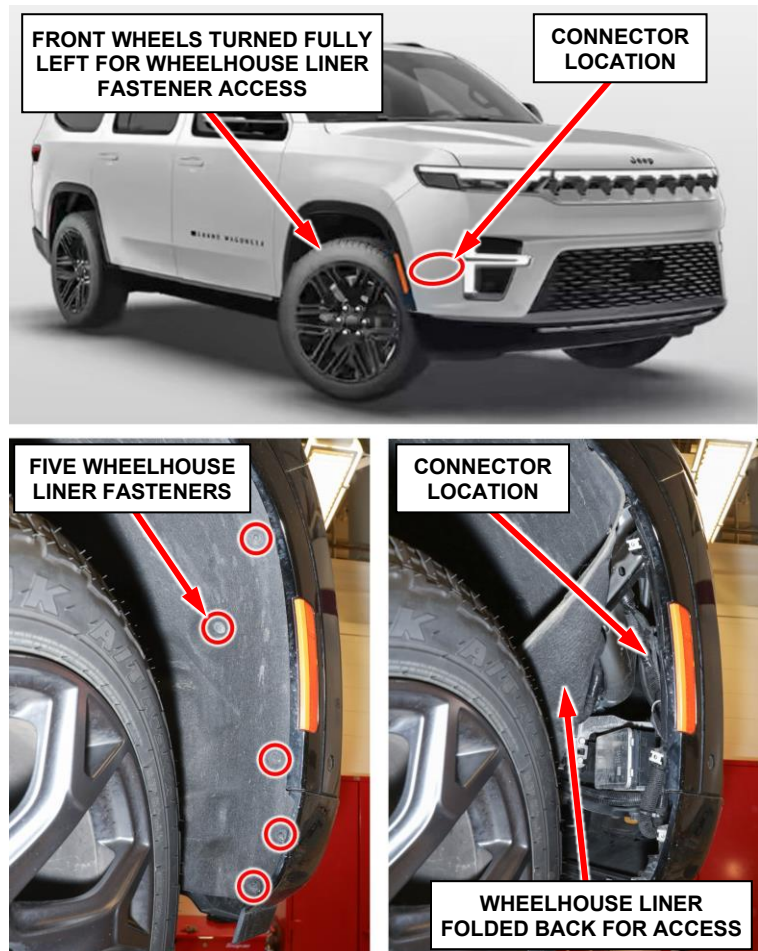

Figure 1 – Camera Harness Connector Location
2. Turn front wheels fully left to access the wheelhouse liner fasteners (Figure 1).
3. On right side of vehicle, remove the five fasteners from the front lower portion of the wheelhouse liner (Figure 1).
4. Fold the front lower portion of the wheelhouse liner back to gain access to the camera wire harness connector (Figure 1).
9. Reinstall the wheelhouse liner (Figure 1).